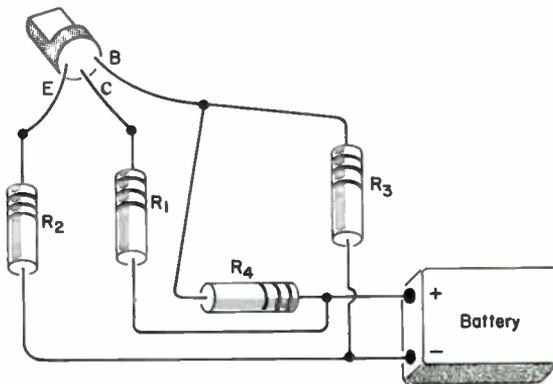

Fig. 56
1. Using an NPN-type transistor, draw a schematic diagram for the pictorial diagram of Fig. 56. (You'll learn in a later lesson how the battery polarity and transistor-type are related.)